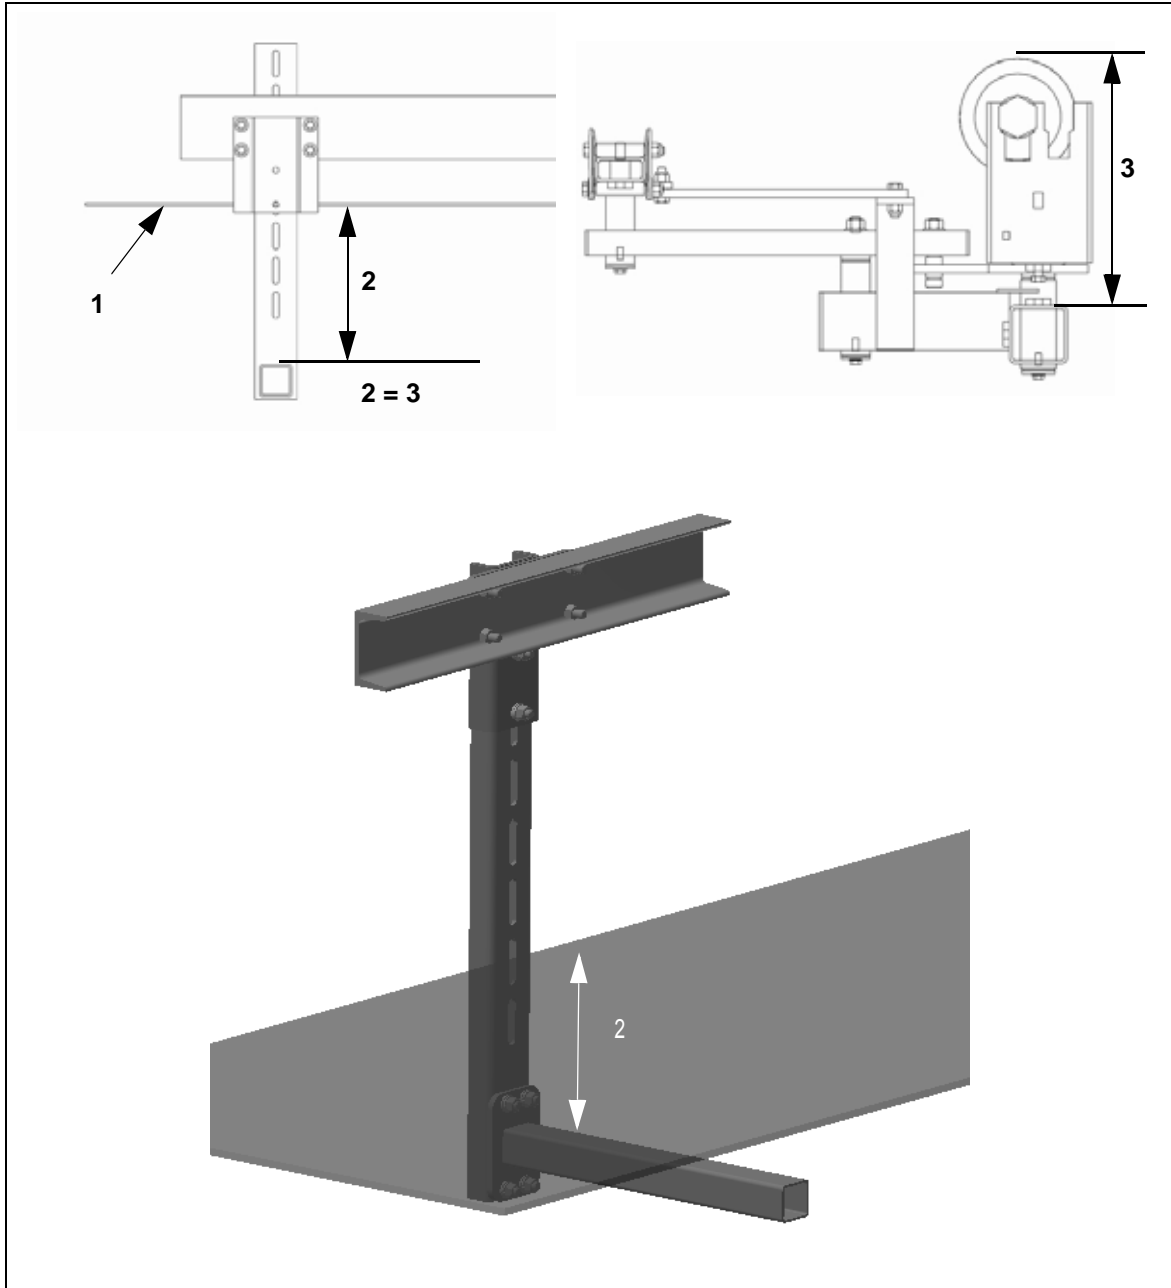

Fig. 6: Positioning the installation frame
7. Position the installation frame on the side turned away (Fig. 6).
The distance (2, Fig. 6) between the upper edge of the suspension frame and the lower edge of the conveyor belt (1, Fig. 6) must match the distance (3, Fig. 6) between the upper edge of the support frame and the upper peak of the return roller.